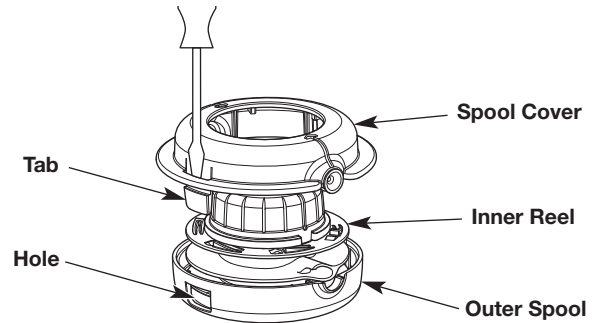

Fig. 5
- c. Gently tilt the screwdriver to unlock the tab from the hole (Fig. 5).
- e. Remove the spool cover (Fig. 5). **DO NOT** attempt to remove any other parts of the cutting head.
- g. Use a clean cloth to clean the inner reel, outer spool and spool cover (Fig. 5).
- h. Align the tabs on the spool cover with the holes on the outer spool (Fig. 5). Push the spool cover onto the outer spool until the tabs securely snap into the holes.